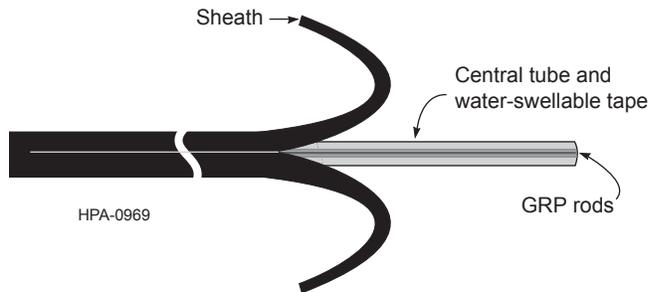

Figure 6
Step 7: Starting at the end of the cable, peel back both sections of split sheath to expose the central tube, water-swappable tape and GRP rods (Figure 6).